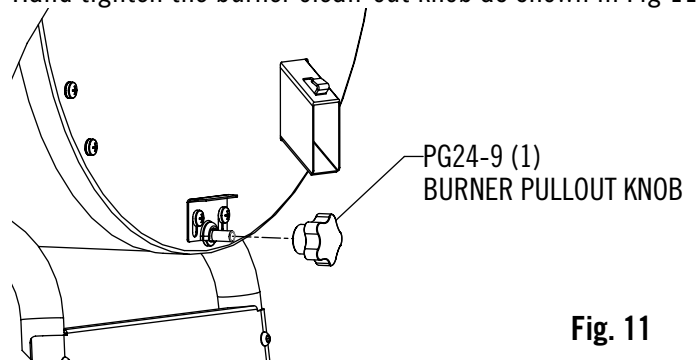

Fig. 11
1. Hand tighten the burner clean-out knob as shown in Fig 11.